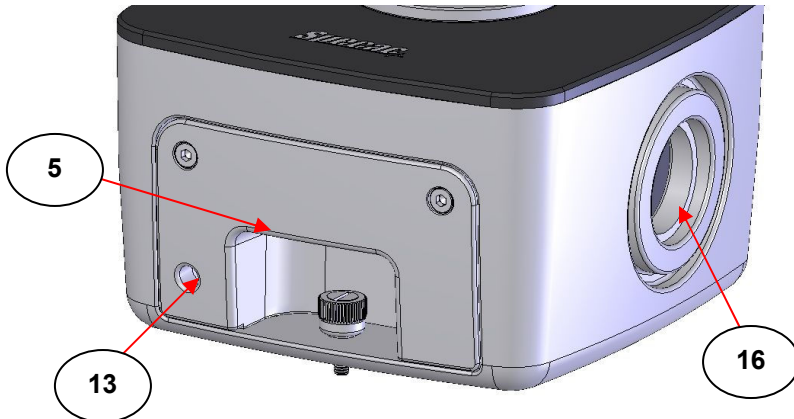

Fig 8. Aperture Ports and Purge Connection on the Quest ATR Optical Unit
To help maintain a purged environment within the optical unit from introduction of a gas via the attached purge tubing, a pair of purge bellows (15) (P/N GS10707) have been supplied with the Quest ATR Accessory for attachment to the optical units two aperture ports (16). (See Figs 8 and 10.)